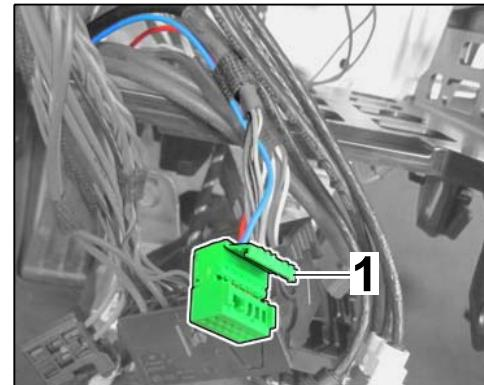

Figure 20
4.4.3 Open secondary lock \Rightarrow Figure 20 -1- (\Rightarrow Figure 20 -arrow-).